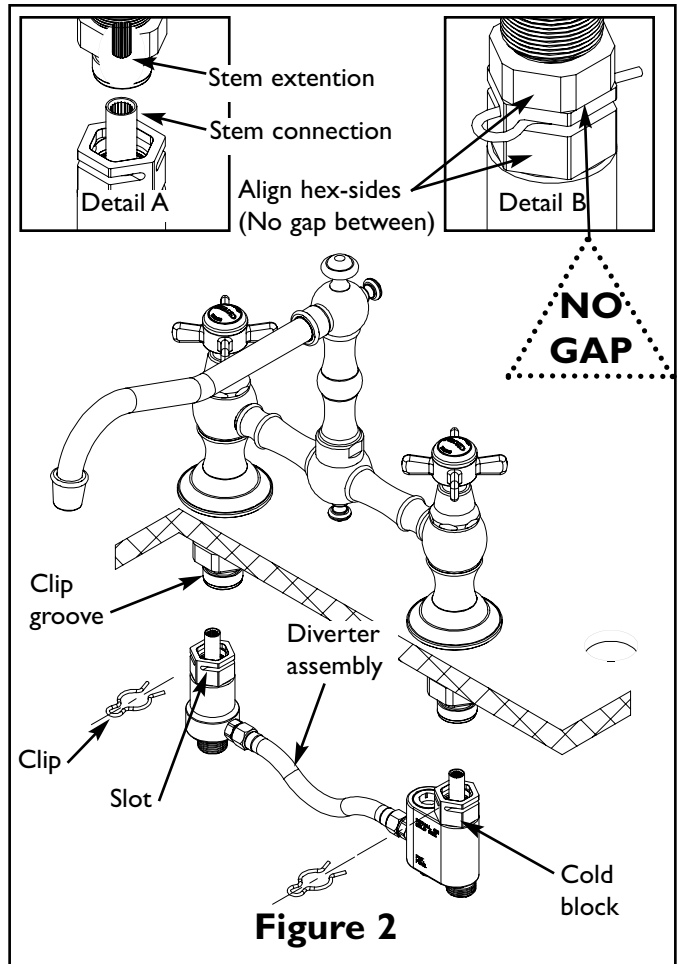

Figure 2
3. Attach the diverter assembly to quick connect adapters - one side at a time (cold block to the cold side of faucet) as follows: Reference Fig. 2
- c. Check the alignment of the clip groove of upper adapter and the side slots of lower adapter. Secure position by pushing clips through slot and into groove. See Fig. 2.